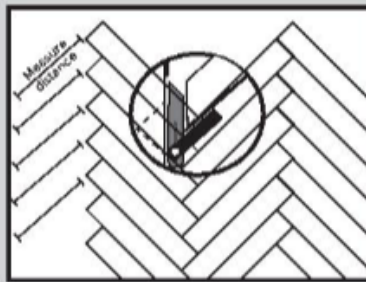

Fig 9
10. Cutting and installing planks at the walls should be done as follows. Measure and mark planks as shown in diagram. The angle for the wall can be found using an angle finder (see below) (Fig 9.).